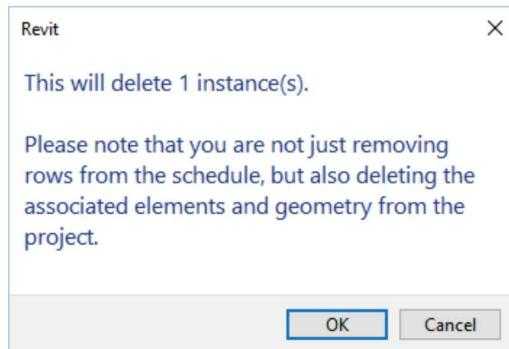

FIGURE 13-2.6 Revit alert message
You will get an alert. Revit is telling you that the actual door will be deleted from the project model (Figure 13-2.6).
11. Click **OK** to delete the door (Figure 13-2.6).